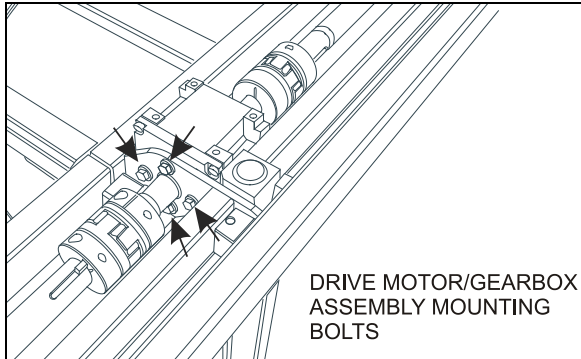

FIGURE 18: DRIVE MOTOR/GEARBOX ASSEMBLY MOUNTING BOLTS
Inspect the electrical connections and their watertightness. Check that the mounting bolts are tight (Figure 18).
3. Remove the 4 cap screws securing the drive motor/gearbox assembly and dismount the assembly (See figure 18).